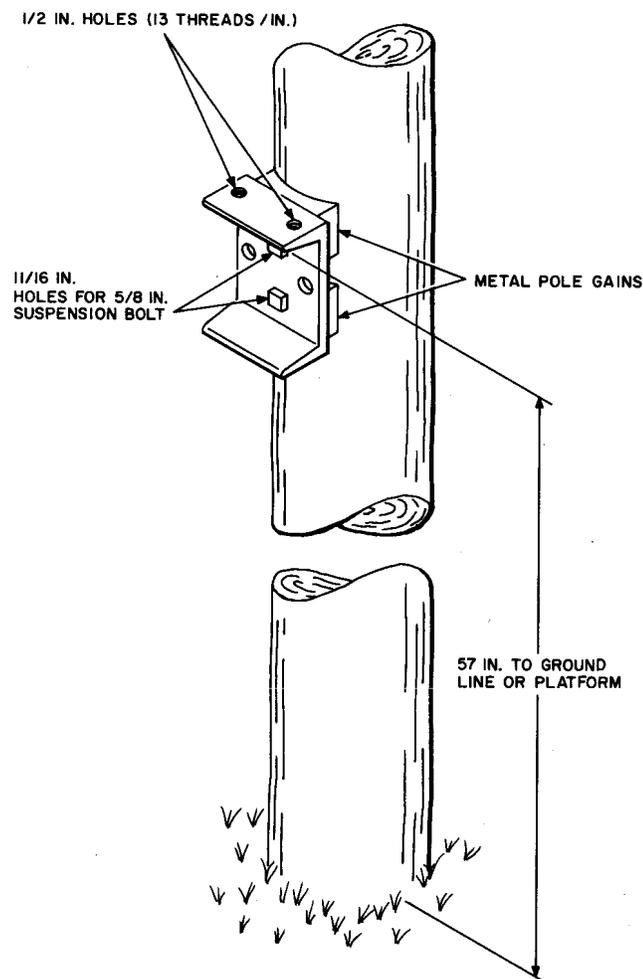
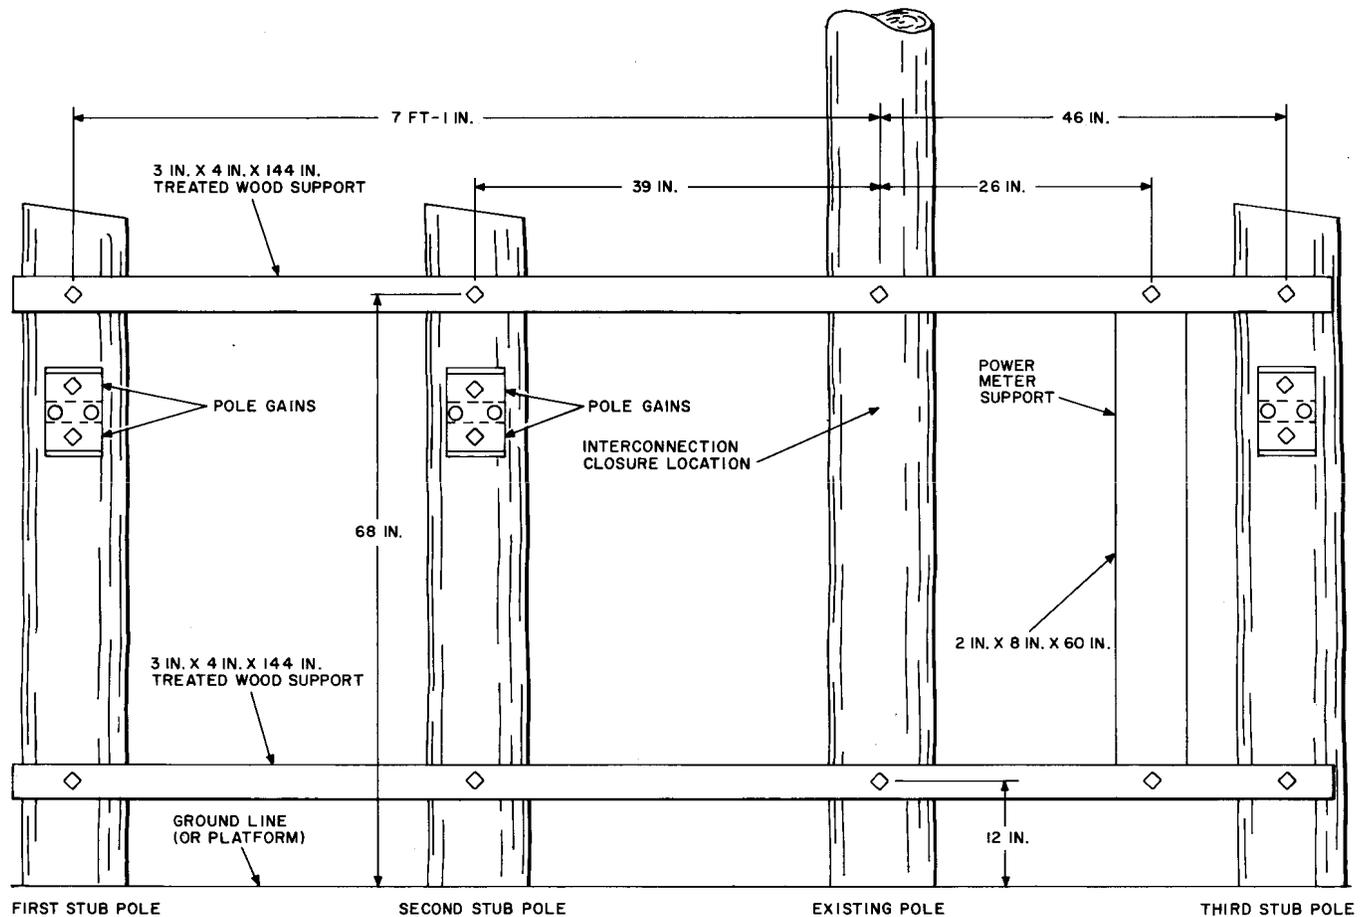

Fig. 8—Channel Hanger Installation
Fig. 9—Multiple RT Cabinet Installation With Channel Hangers
4.04 Bore 11/16-inch holes in the pole as illustrated in Fig. 8. Position the channel hanger so that the 1/2-inch threaded holes are facing upward; then, using the metal pole gains, bolt the hanger to the pole. Proceed to paragraph 6.01.
4.08 For the aerial application, build the H-fixture and mount the wooden supports as shown in Fig. 9. Mount the channel hangers as illustrated in Fig. 8 and in paragraph 4.04. The upper crossarm in Fig. 9 does not support any cabinet weight. Proceed to paragraph 6.01.